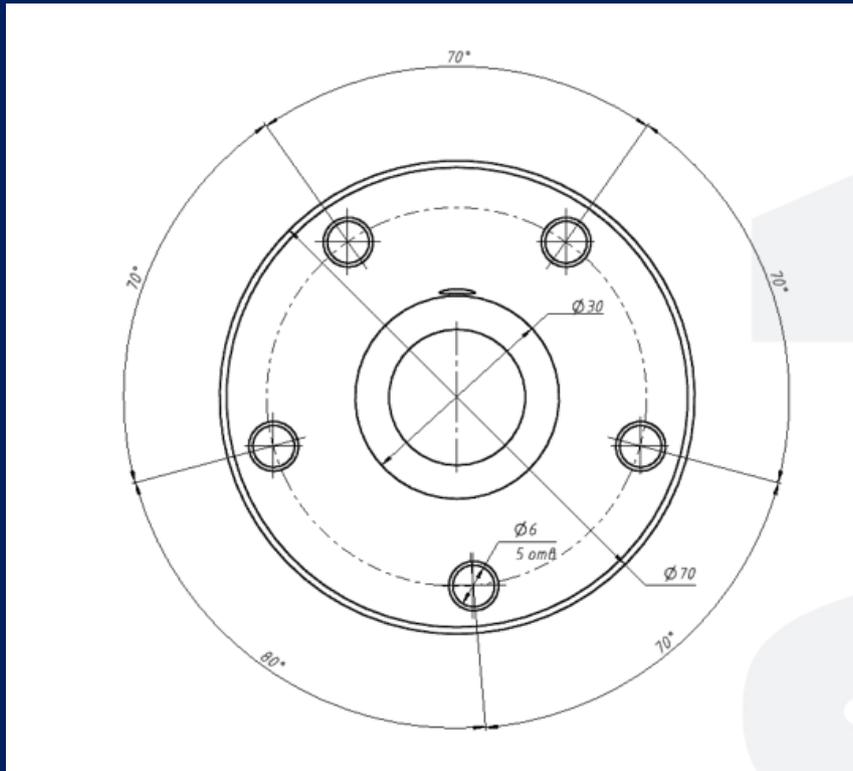

Figure 4 - Dimensional view of the bottom of the transducer head
2. Drill a center hole with a diameter of 32 - 35 mm for mounting the sensor, according to Figure 4.